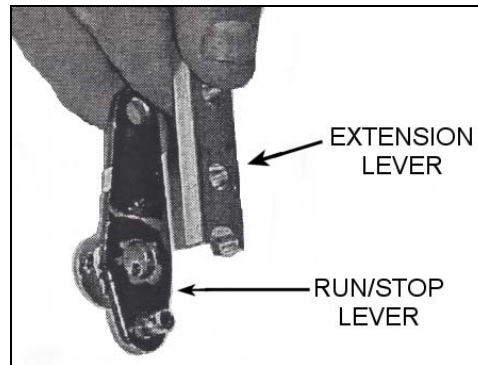

Figure 3. Align the Two Levers
1. Align the extension lever with the run/stop lever. The radius of the extension lever must match with the hole for the pivot of the run/stop lever. The extension lever must be parallel to the centerline of the run/stop lever (**Figure 3**).